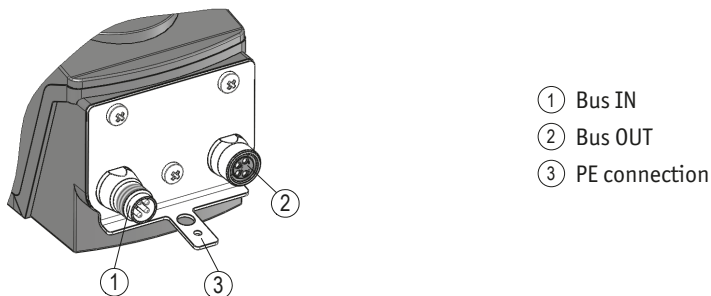
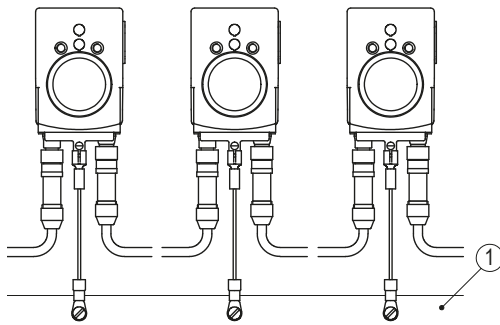

Fig. 5: Pin assignment
Fig. 6: Ground bar
Potentially live contacts must be protected against touch. Therefore, take care that the setpoint display is connected via the "Bus-In" ① connection (see Fig. 5). This ensures protection of the live contacts on "Bus-Out" ② by means of the jack (for the IP type of protection, please refer to chapter 4.1).
- ① Bus IN: Pin 4 pin M8 (see Fig. 5).
- ② Bus OUT: Female 4 pin M8 (see Fig. 5).
For protection against interference, the screens of the signal lines and the power line must be connected on both sides. Potential differences cause inadmissible currents on the screen. Install the PE connection ③ onto the protective earth conductor potential between the plug connectors (see Fig. 5). Use 6.3 mm flat connectors or cable lug with short strands $2.5 \dots 4 \text{ mm}^2$ (not in the scope of delivery). For multiple setpoint displays we recommend connecting the earthing to a ground bar ① (see Fig. 6).